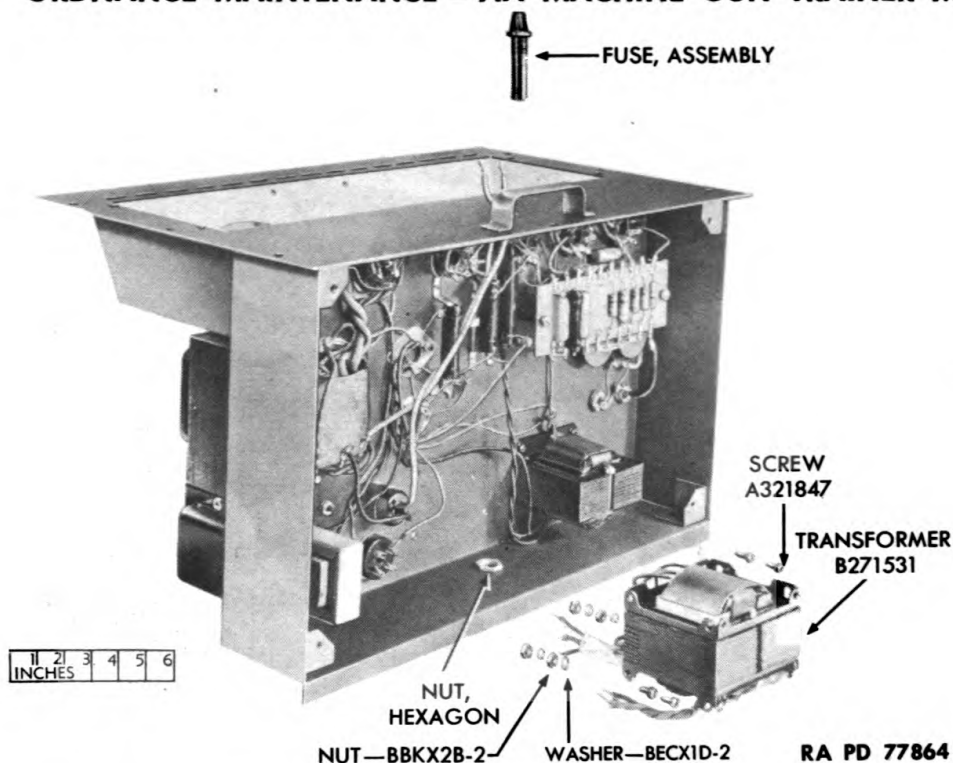

Figure 14 — Removal of Output Transformer and Fuse From Amplifier
(10) Unsolder the leads to the transformer B271531 (fig. 14). Unscrew the four hexagonal-head nuts from the screws fastening the transformer to the chassis and remove the transformer. Do not misplace the lock washers.